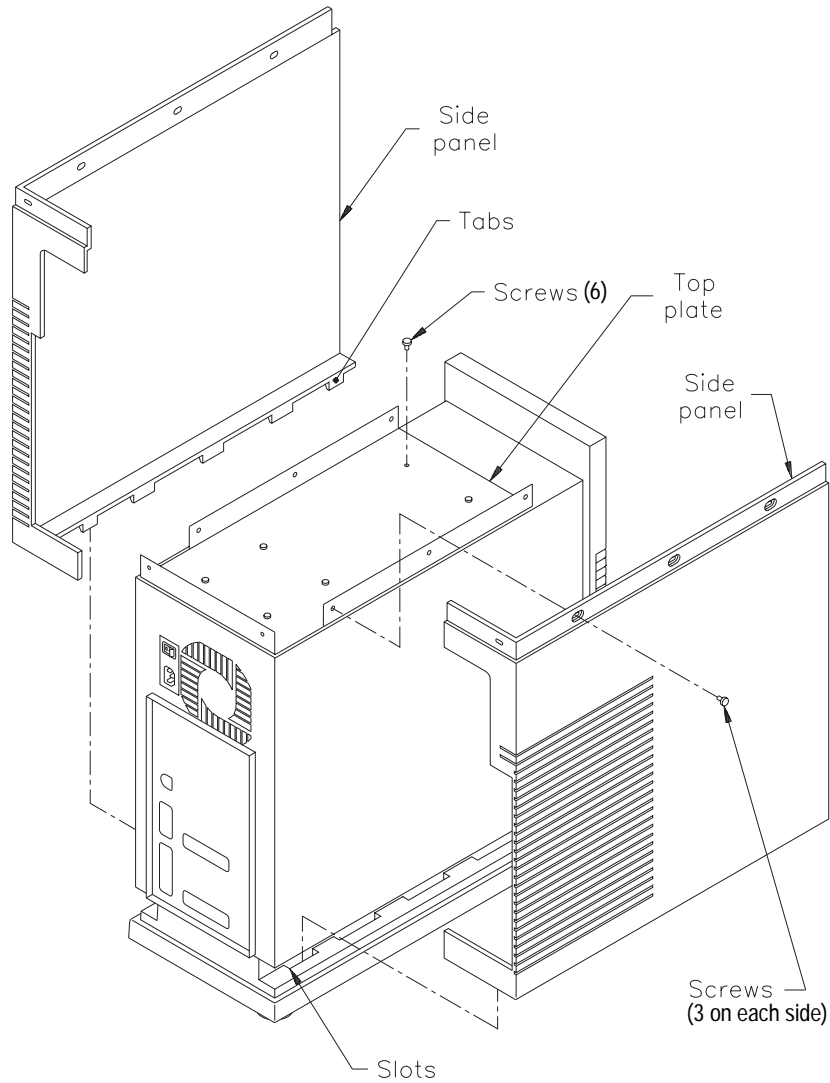

Figure 3 Removing the side panels and top plate from the standalone model
3. Using a T-20 TORX bit, remove the three screws from the top of each of the side panels and remove the panels, as shown in Figure 3.
4. Using a T-20 TORX bit (earlier models may require a Phillips bit), remove the six screws from the top plate and remove the plate, as shown in Figure 3.